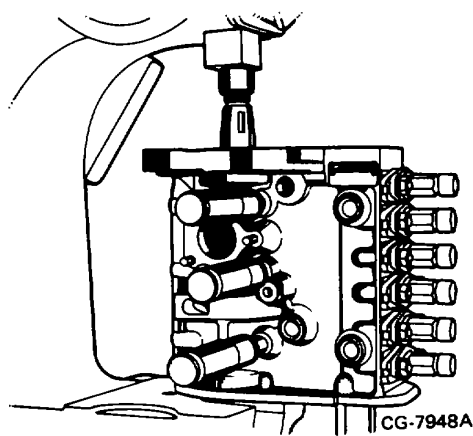

Figure 24. Camshaft Removal
24. Use an arbor press to push camshaft, with attached rear bearing, out of the pump housing (Figure 24). Be careful with intermediate bearing. Do not let camshaft fall to floor.